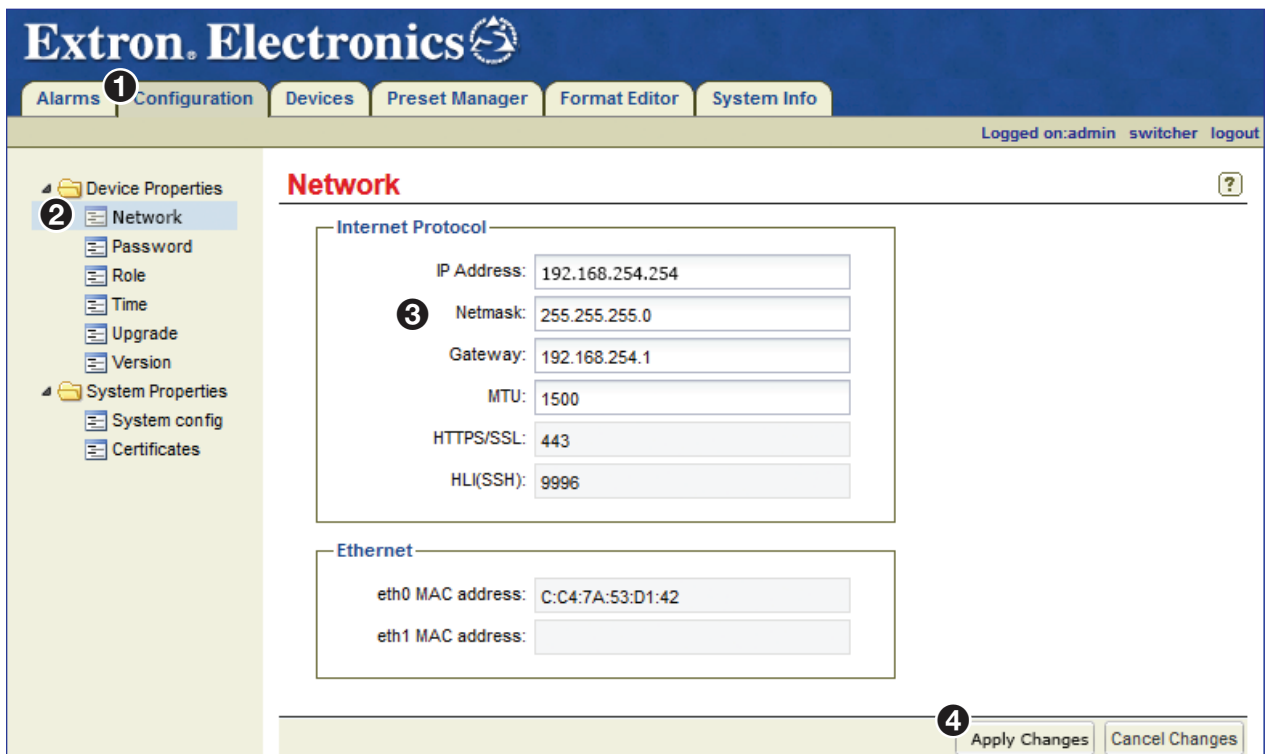

Figure 5. Network Configuration Page
5. On the default Devices page, click the **Configuration** tab (see figure 5, 1). The Configuration page opens.
6. On the Configuration page, click the **Network** link (see figure 5, 2).
7. Change the **IP Address**, **Netmask**, and **Gateway** fields (3) as necessary.
- Click **Apply Changes** (see figure 5, **4** on the previous page) to save the configuration. The controller restarts. After the restart, the network settings are properly configured.